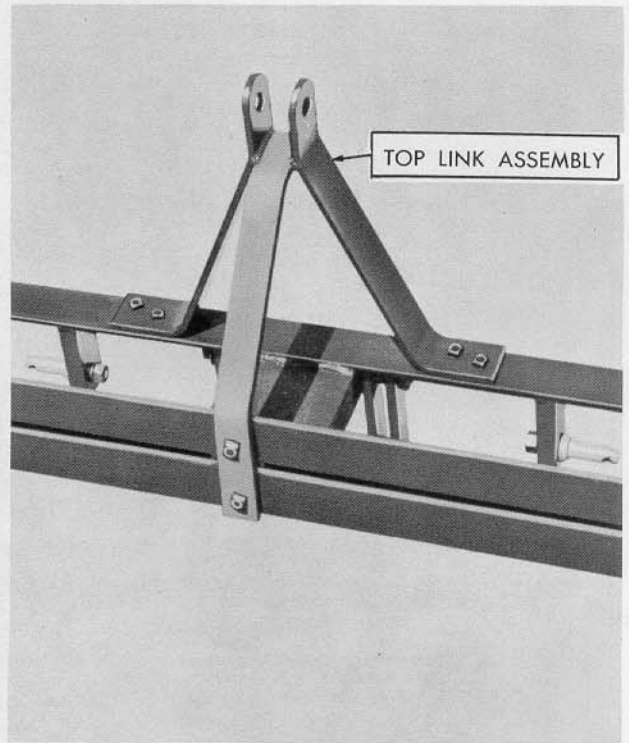

Figure 4
3. Place the main frame upright and attach the top link assembly, as shown in Figure 4 with the six bolts provided.